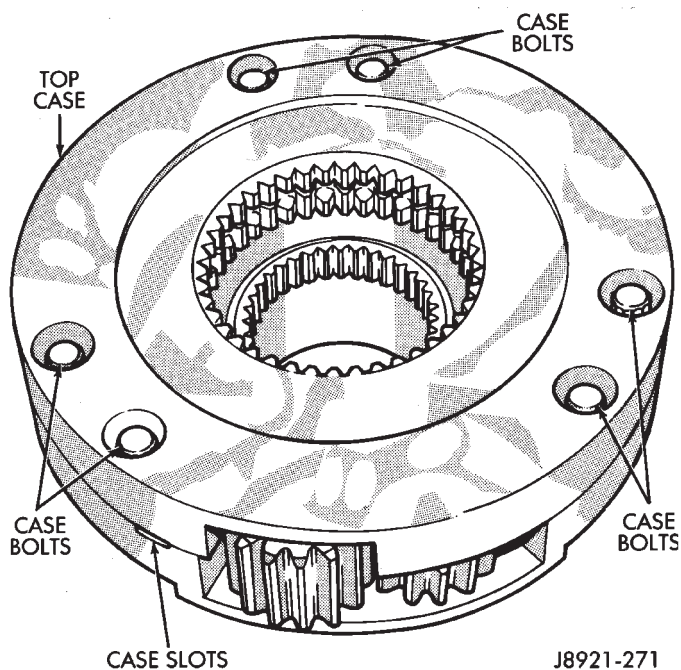

Fig. 34 Separating Differential Case Halves
- (48) Remove oil seals from the rear retainer, extension housing, oil pump and case halves.
- (49) Mark differential case halves for reference.
- (50) Remove differential case bolts and separate top case from bottom case. Use slots in case halves to pry them apart (Fig. 34).